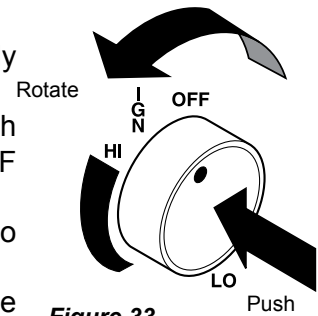

Figure 33 -
- From OFF position, push in gas control knob slightly and turn counterclockwise  to the IGN position. Figure 33. Push in and hold control knob for 5 seconds.